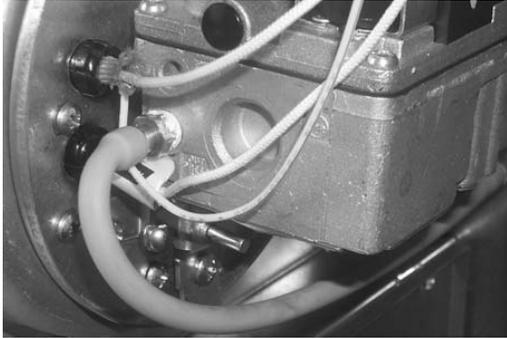

FIGURE 19: Pressure tap
- a. Remove gas valve OUT PRESS TAP plug using 3/16" Allen wrench. Install 1/8 NPT hose barb fitting. See Figure 19.